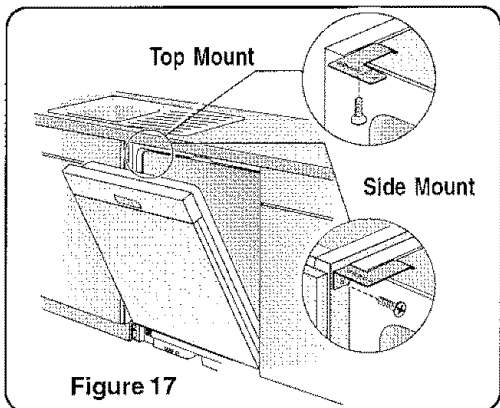

Figure 17
1. Drive the mounting screws through the holes in the mounting brackets as shown in Figure 17 for Top or Side Mount.